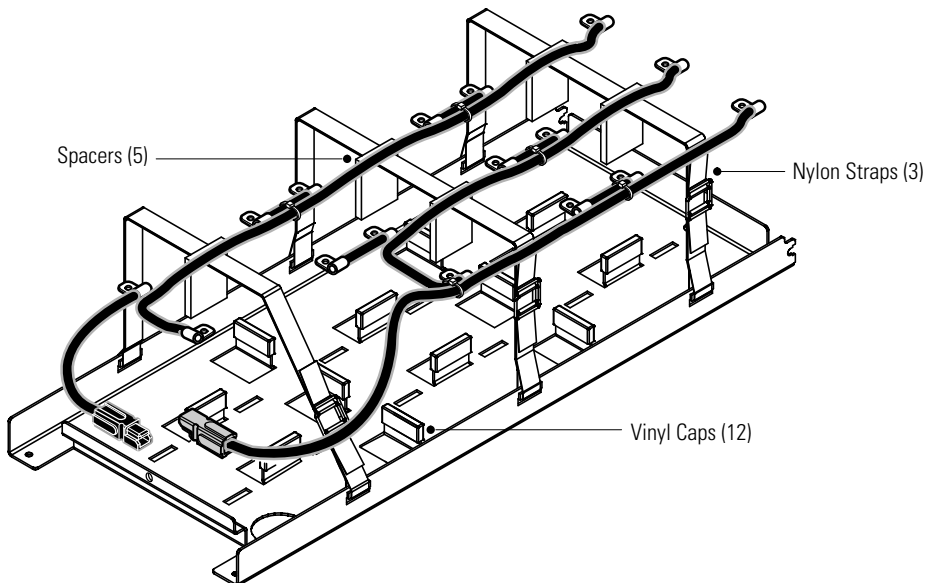
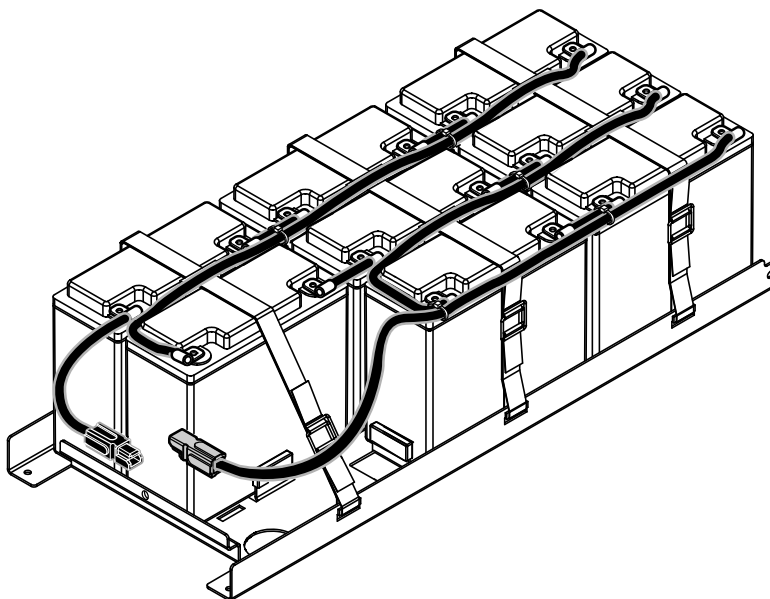

Figure 19. Battery Tray without Batteries
Figure 20. Battery Tray with Batteries
8. Install 12 vinyl caps on the battery tray dividers as shown in Figure 19.
9. Insert eight batteries into the battery tray (see Figure 20).
10. Connect the batteries in the tray as shown in Figure 19 and Figure 20.
11. Secure the batteries to the tray, using 5 spacers and 3 nylon straps. See Figure 19 and Figure 20 for spacer and strap placement.